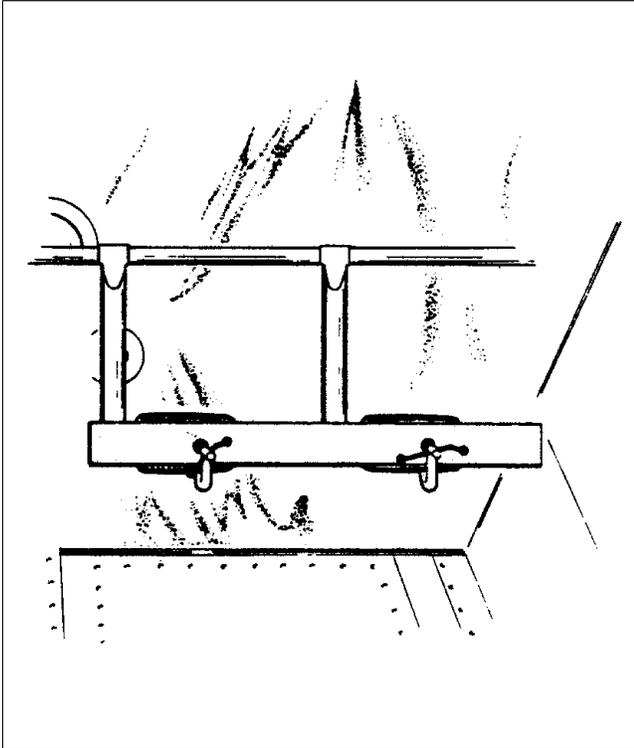
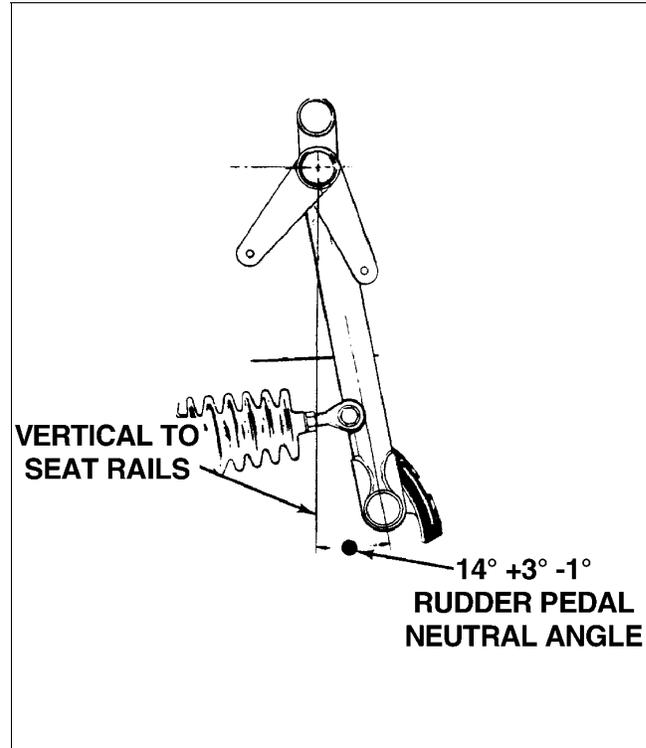

Figure 32-9. Clamping Rudder Pedals in Neutral
Figure 32-10. Rudder Pedals at Neutral Angle
- h. Clamp rudder pedals to align them in a lateral position. Ensure that rudder pedals are in their neutral position. (Refer to Figure 32-9 and Figure 32-10)
- l. Place a bubble protractor against a rudder pedal steering tube to check the neutral angle. (Refer to Figure 32-10.)